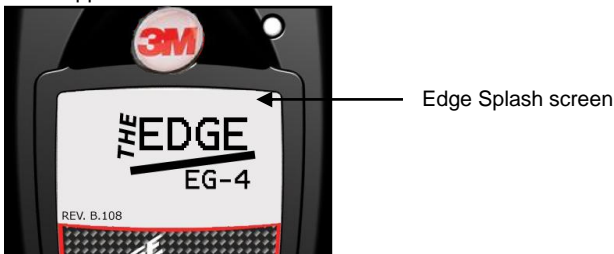

Figure 4-5: Splash screen
3. When the splash screen appears, press and **hold the run/stop**  and **on/off enter**  buttons. (See figure 4-5 for splash screen).